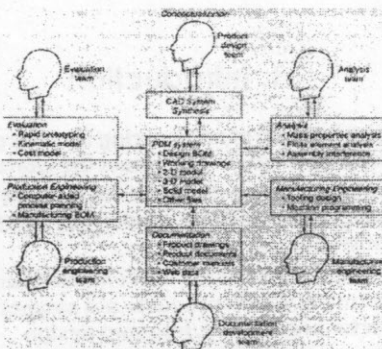

Figure 5-1 CAD Integration of the Design and Manufacturing Elements in the Enterprise
- The relationship between design process and the processes used in production and manufacturing engineering is illustrated in Figure 5-1.
- In Figure 5-1 there are six teams: product design, analysis, evaluation, documentation development, production engineering, and manufacturing engineering.